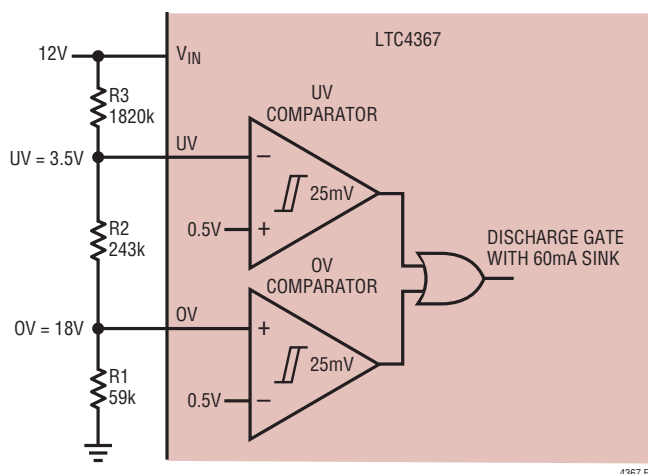

Figure 4. UV, OV Comparators Monitor 12V Supply
The LTC4367 provides two accurate comparators to monitor for overvoltage (OV) and undervoltage (UV) conditions at V_{IN} . If the input supply rises above the user adjustable OV threshold, the gate of the external MOSFET is quickly turned off, thus disconnecting the load from the input. Similarly, if the input supply falls below the user adjustable UV threshold, the gate of the external MOSFET also is quickly turned off. Figure 4 shows a UV/OV application for an input supply of 12V.
The external resistive divider allows the user to select an input supply range that is compatible with the load at V_{OUT} . Furthermore, the UV and OV inputs have very low leakage currents (typically $< 1\text{nA}$ at 100°C), allowing for large values in the external resistive divider. In the application of Figure 4, the load is connected to the supply only if V_{IN} lies between 3.5V and 18V. In the event that V_{IN} goes above 18V or below 3.5V, the gate of the external N-channel MOSFET is immediately discharged with a 60mA current sink, thus isolating the load from the supply.
The following 3-step procedure helps select the resistor values for the resistive divider of Figure 4. This procedure minimizes UV and OV offset errors caused by leakage currents at the respective pins.
The example of Figure 4 uses standard 1% resistor values. The following parameters were selected: